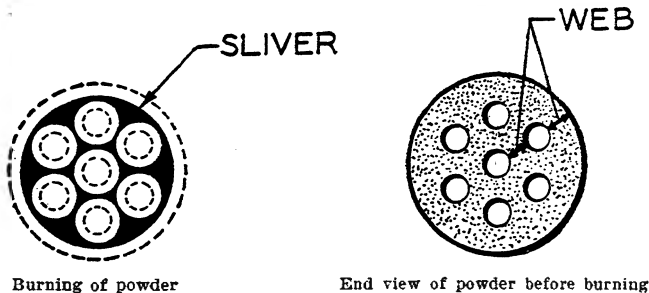

FIG. 16.—Grain of powder
(2) It is assumed that all the exposed surfaces of the grain of powder begin to burn at the same time. Figure 16 shows the end view of a typical grain of powder and also the progressive burning action until the grain is practically consumed. The dotted lines show the original shape of the grain of powder. The small triangular sections are called "slivers." These slivers will burn if the powder is properly designed.
(3) The maximum allowable pressure in the 155-mm. gun is 31,500 pounds per square inch and the muzzle velocity with the full charge is 2,410 feet per second.